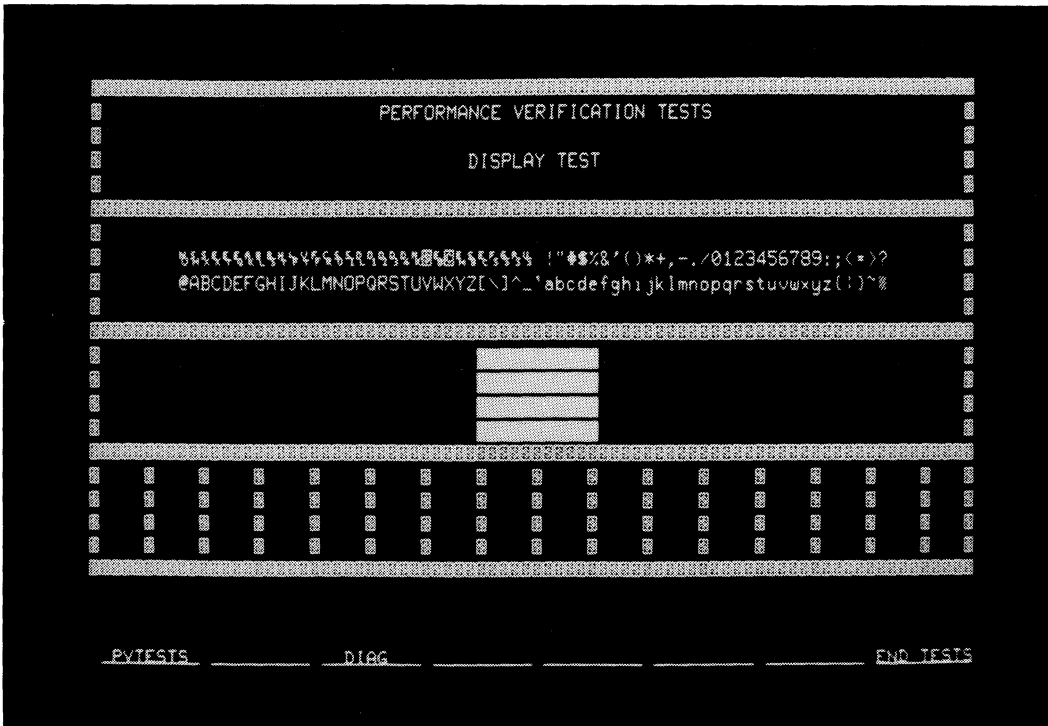

Figure 4-1. Display Test Pattern
- b. Turn power OFF then back ON. The display test pattern (see fig. 4-1) should be on screen.